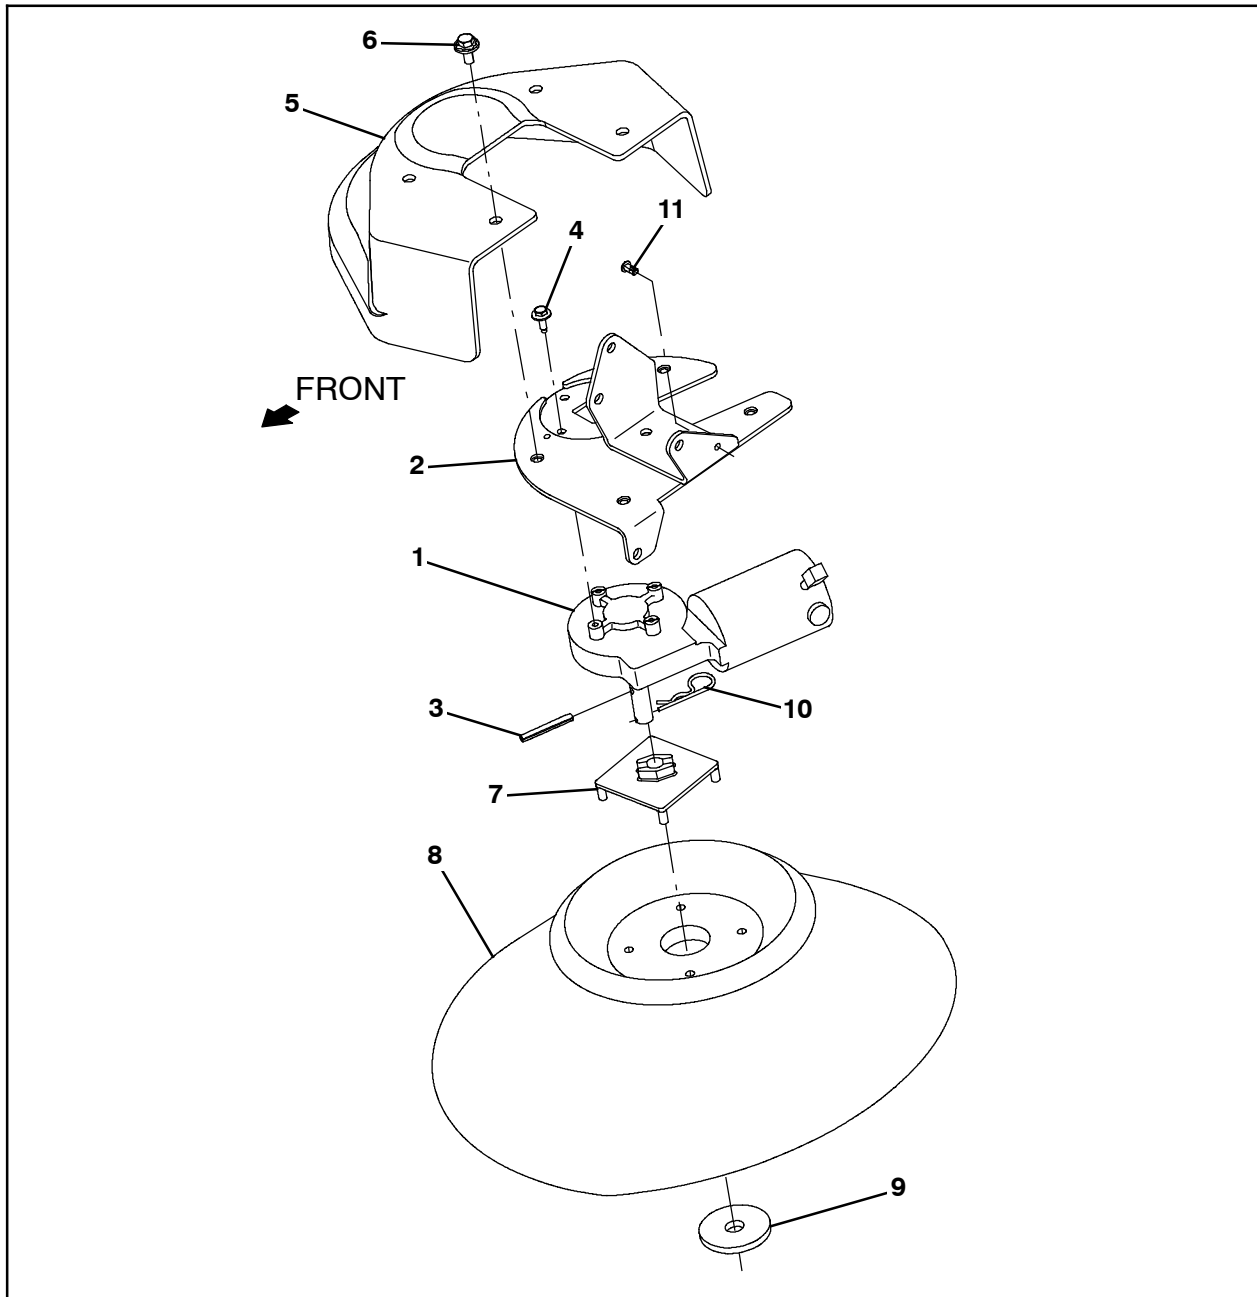
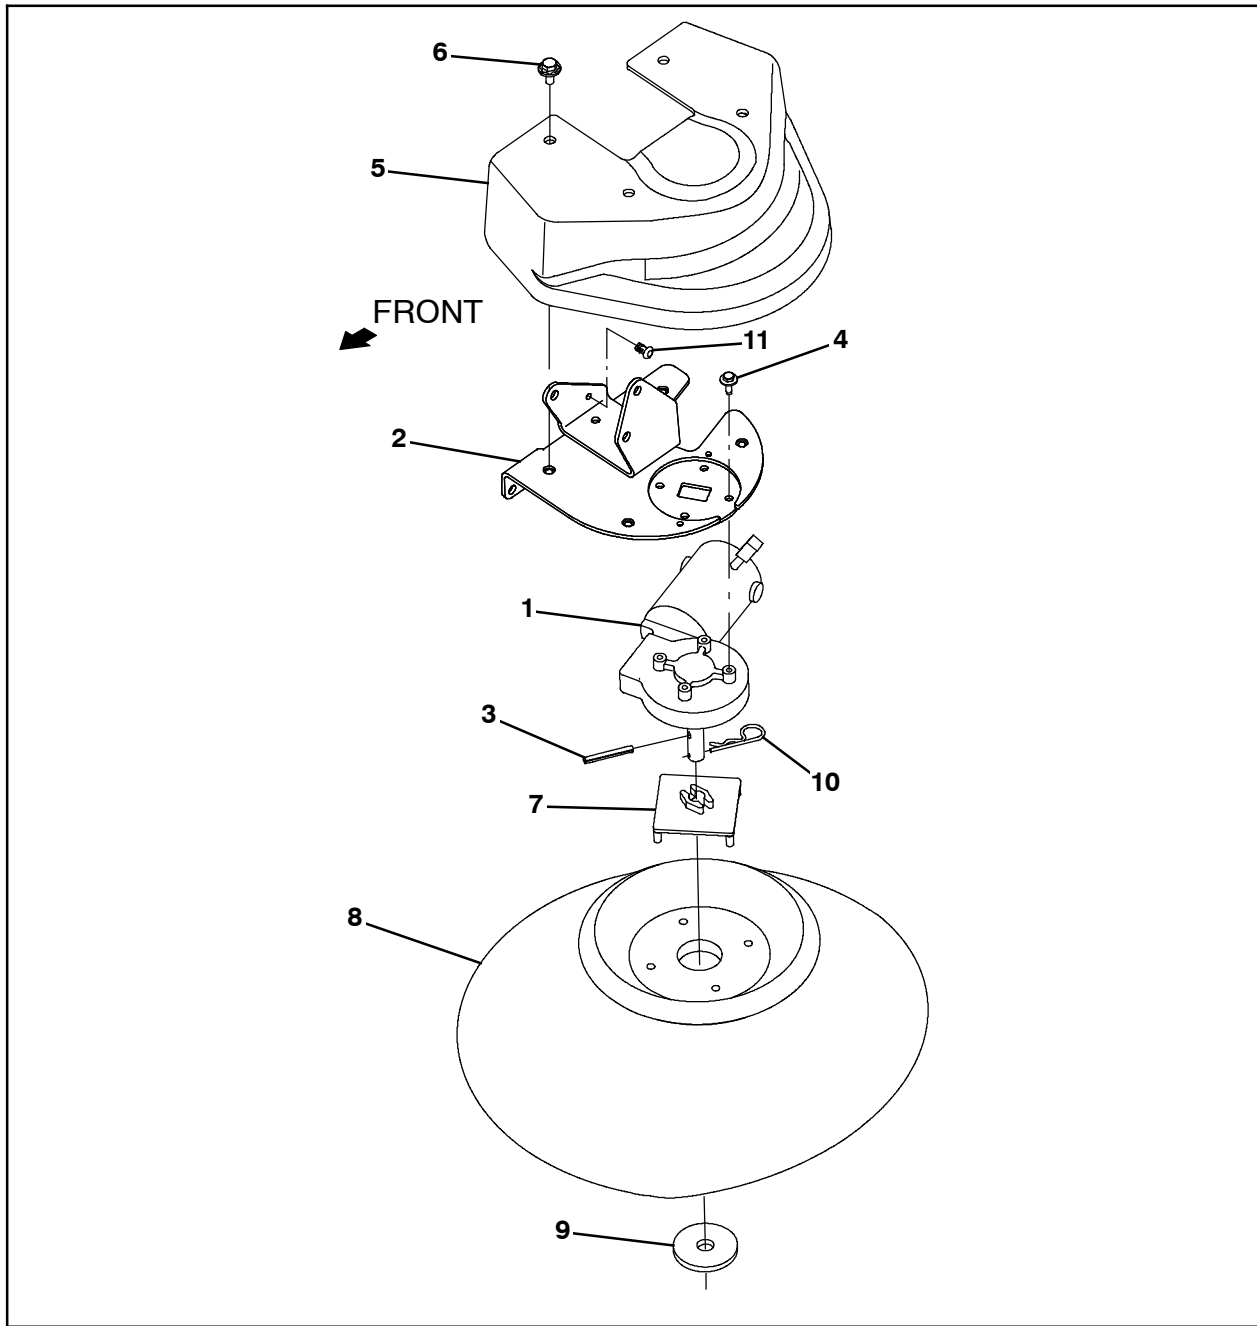

FIG. 3 - Sweeping Side Brush Drive Motor Group, Right Side
FIG. 5 - Sweeping Side Brush Drive Motor Group, Left Side
8. Use four M8 SEMS hex screws to install a side brush cover(s) onto the right sweeping side brush assembly and / or left sweeping side brush assembly. (Fig. 3 / Fig. 5)
9. Install a brush onto the right sweeping side brush assembly and / or left sweeping side brush assembly. Use a cotter pin to secure the brush(es) onto the sweeping side brush assembly(ies). (Fig. 3 / Fig. 5)